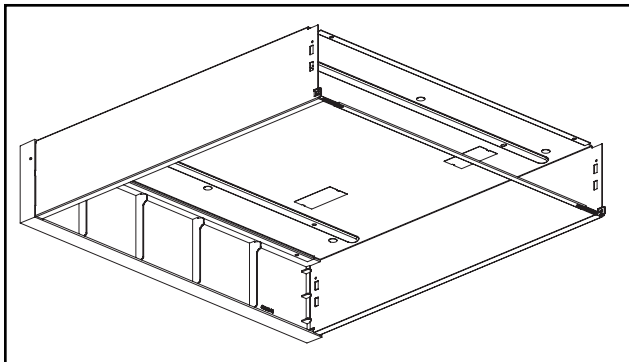

Figure 2.
2. Remove one end plate on one side of surface mount kit. (see Figure 2)